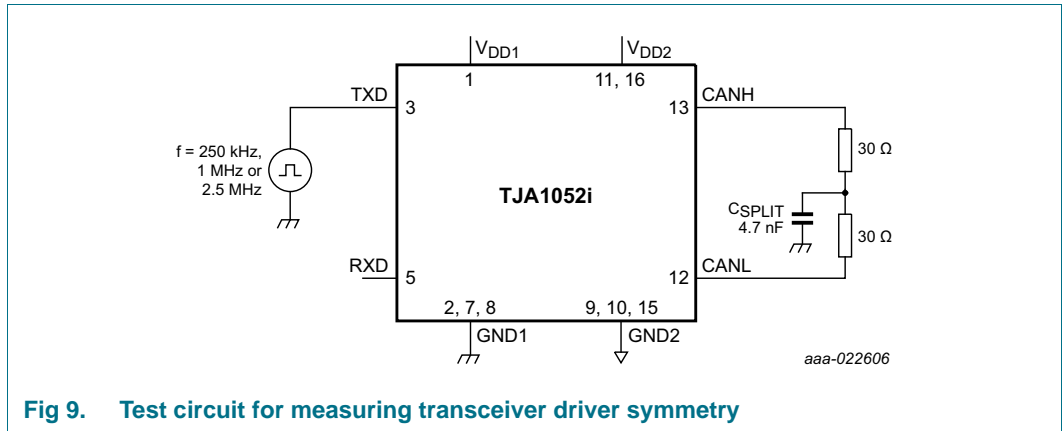

Fig 9. Test circuit for measuring transceiver driver symmetry
- [4] The test circuit used to measure the bus output voltage symmetry (which includes C_{SPLIT}) is shown in Figure 9.